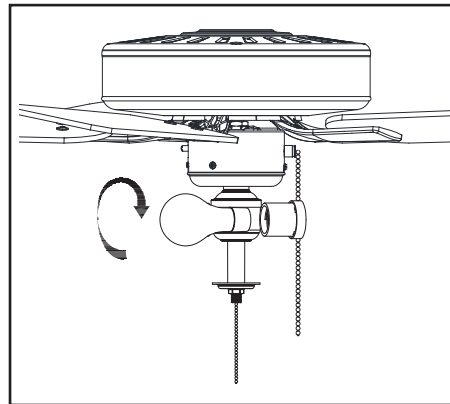

Figure 14
5. Install the two LED lamps (provided) into the light kit fitter sockets (Figure 14).